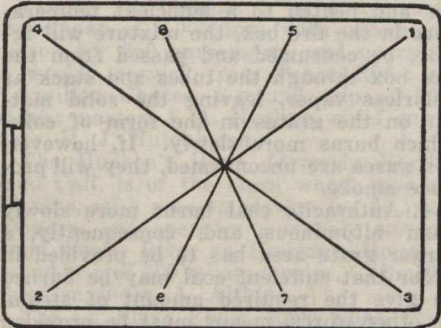
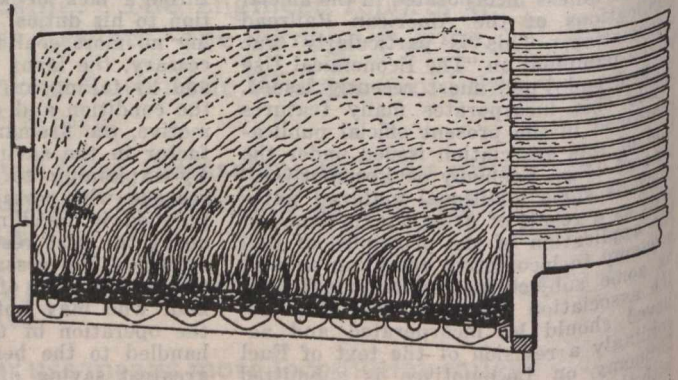
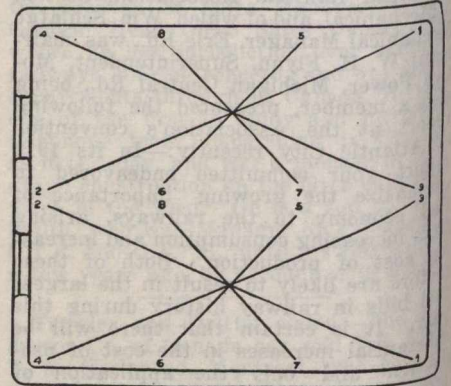

Fig. 1.
Fig. 4.
Fig. 2.
24. Do not put four or five shovelfuls of coal into the fire box at one time. One, or perhaps two, will give better results, and if more than one shovelful is used at one firing, they should not be put into the same spot. Fig. 1 shows how coal should be introduced into a single, and fig. 2 a double door fire box, each successive shovelful being thrown to the points indicated by the numbers. This method of firing will tend to make the bed of fire uniform, but, of course, the judgment of the fireman must be depended upon to see that thin spots are kept covered. Fig. 2 shows the method of cross firing a Wooten firebox, as indicated by successive numbers on the arrows, first firing on the one side and then the other, along the walls and center of the firebox.
26. Figs. 4 and 5 show the condition of the fire when the practice of light and level cross-firing illustrated by fig. 1 is followed. The bed of fuel is slightly heavier next to the sheets than on other